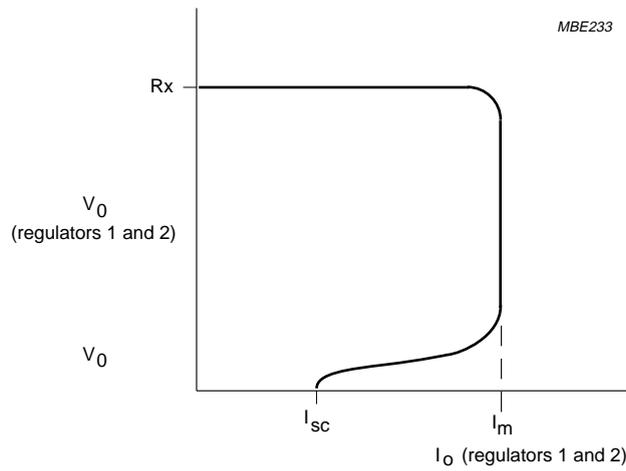

Fig.4 Foldback current protection of the regulators.
$V_P = V_{PSW} = 14.4\text{ V}$; $T_{amb} = 25\text{ °C}$; see test Figs. 4 and 5 unless otherwise specified.
8. At current limit, I_{REGm} is held constant (behaviour in accordance with the broken line in Fig. 4).
9. The foldback current protection limits the dissipated power at short circuit (see Figs 4 and 5).